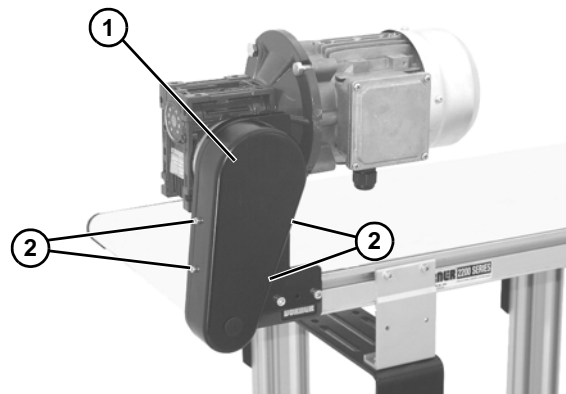

Figure 20
10. Install cover (Figure 20, item 1) with four (4) screws (Figure 20, item 2). Tighten to 35 in-lb (4 N-m).
1. Remove four (4) screws (Figure 20, item 2) and remove cover (Figure 20, item 1).
4. Install cover (Figure 20, item 1) with four (4) screws (Figure 20, item 2). Tighten to 35 in-lb (4 Nm).
6. Install cover (Figure 20, item 1) with four (4) screws (Figure 20, item 1). Tighten to 35 in-lb (4 Nm).
1. Remove four (4) screws (**Figure 20, item 2**) and remove cover (**Figure 20, item 1**).